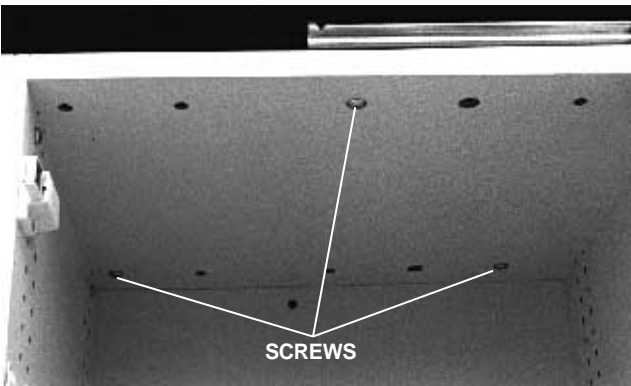

FIGURE 9
- Loosely install three of the screws through the top of the console and into the slides of the countertop in the positions shown in Figure 9. This area is accessed from the side of the module.